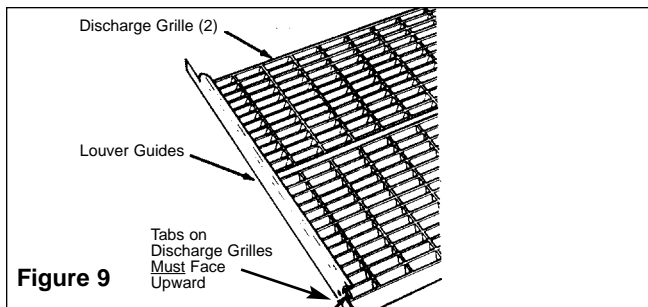

Figure 9
4. Fit the two louver guides over the two discharge grilles as shown in Figure 9.